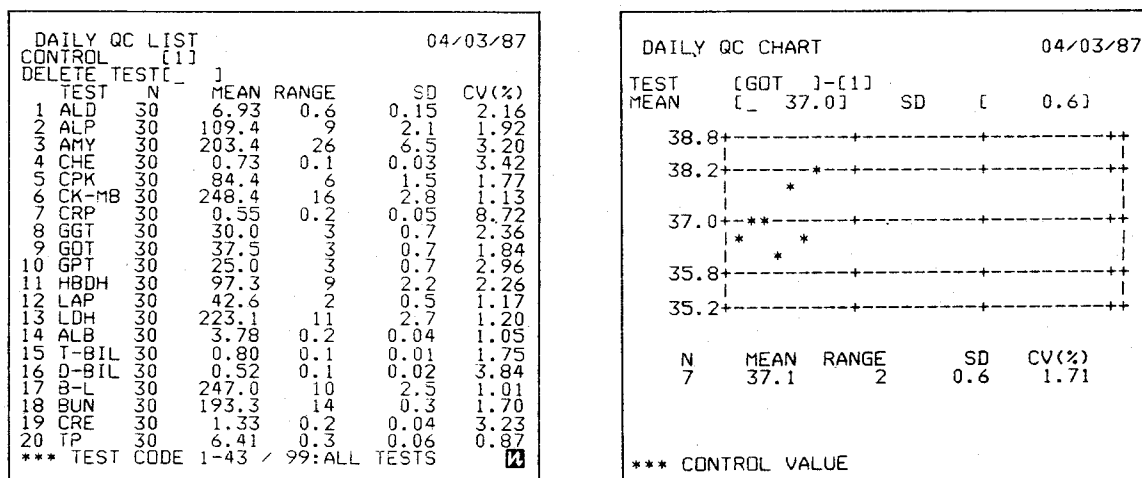

Fig. 3-50 Examples of DAILY QC Screens
This instrument has the DAILY QC LIST screen through which the operator can check the control mean value ($\bar{X}$), variation range (RANGE), standard deviation (SD), and coefficient of variation (CV%) for each test. Also, the operator can check the latest 30 results graphically on the DAILY QC CHART screen. Figure 3-50 shows examples of the DAILY QC LIST and DAILY QC CHART screens.